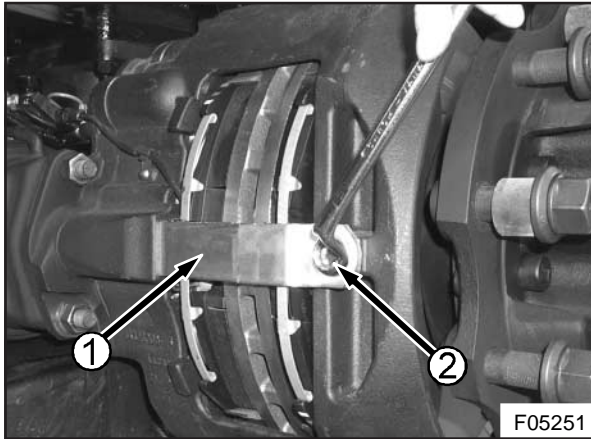

Figure 28 : Brake pad retaining plate and bolt
3. With a 17 mm-box wrench, undo and remove bolt (2, Figure 28), securing the brake pad retaining plate (1, Figure 28) to the caliper.